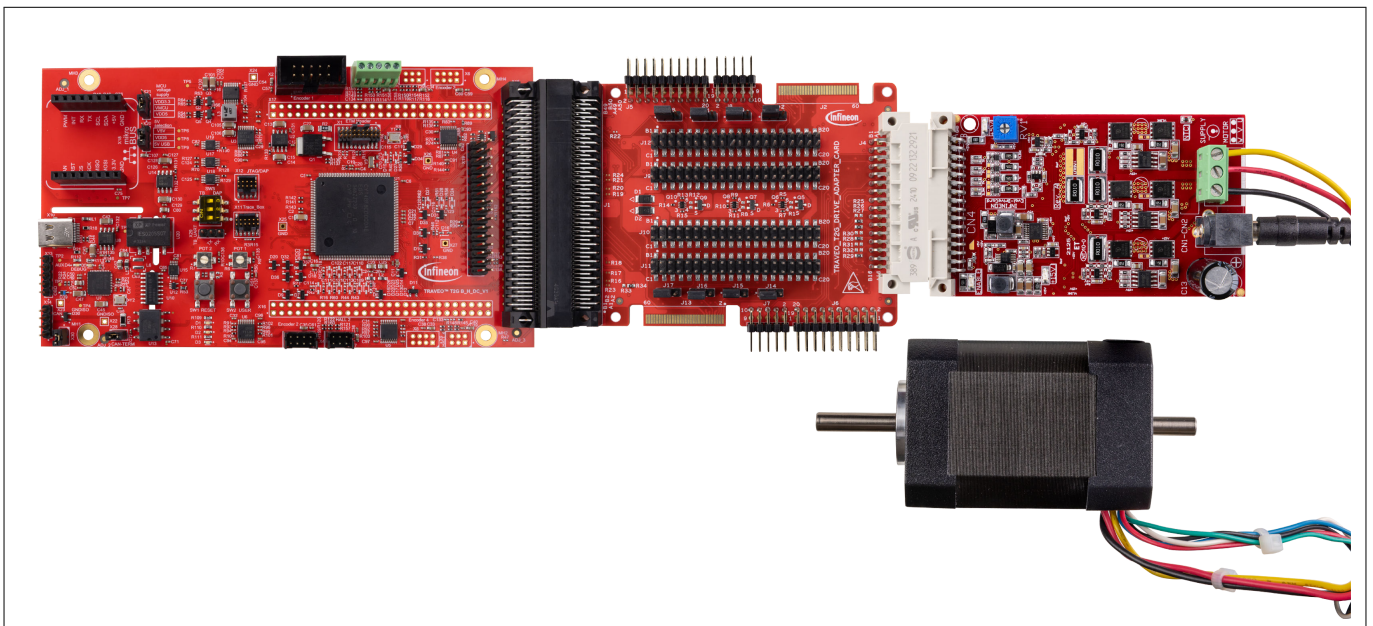

Figure 5 KIT_TRAVEO_T2G_B_H_MC1 complete setup with motor
3. Connect the control and power board using the adapter board as shown in Figure 5